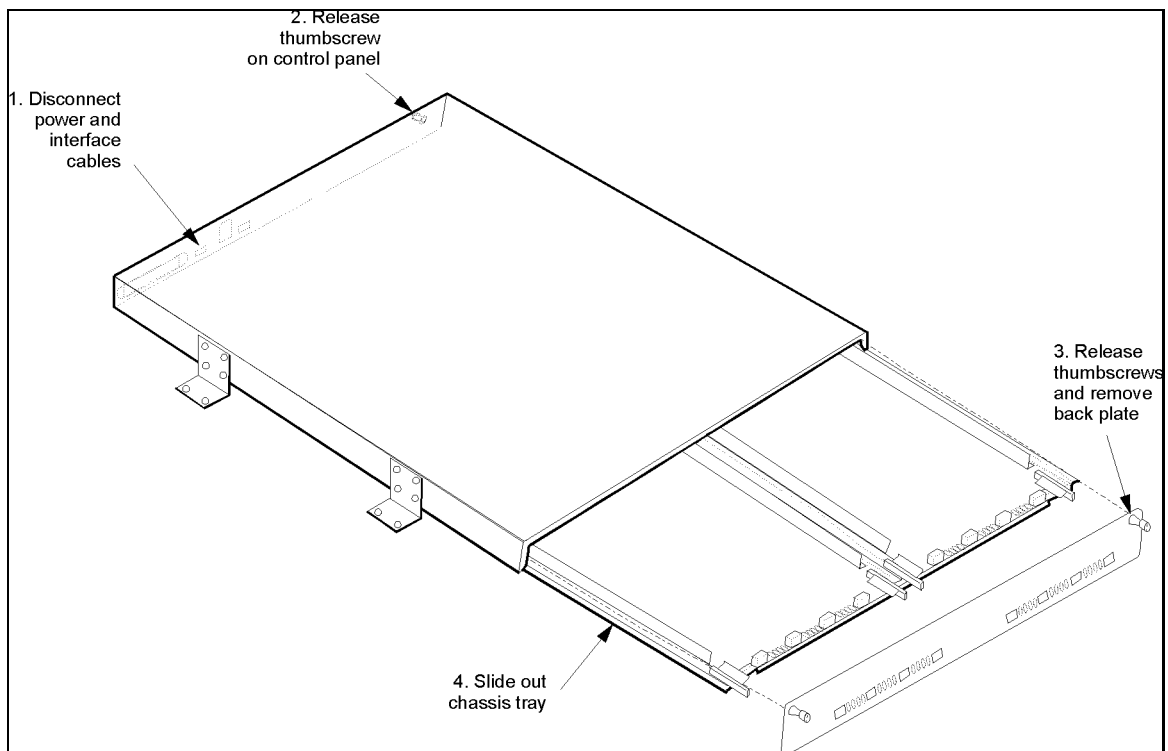

Figure 13-2: Removing the Chassis Tray
3. Refer to Figure 13-2 to locate the back plate of the Access Bank II - SNMP that identifies the voice channels and any corresponding test switches. Loosen the two thumb screws and remove the back plate.
4. Remove the chassis tray using the procedure outlined in Figure 13-2.